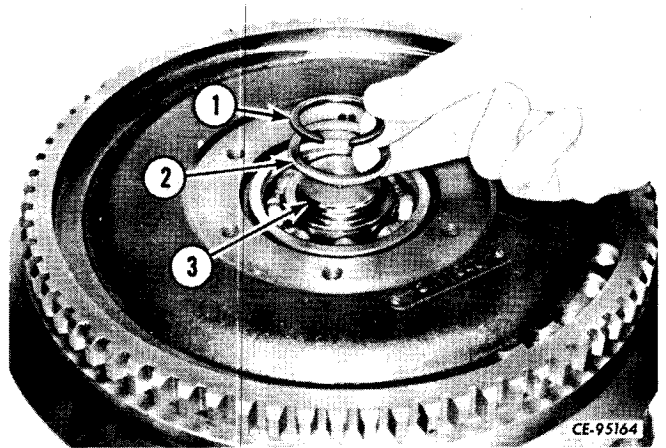

Figure 3-37
Place the bearing spacer (2, Fig. 3-37) on the output shaft (3) and secure with snap ring (1). Be sure snap ring bottoms around its entire circumference in shaft groove.